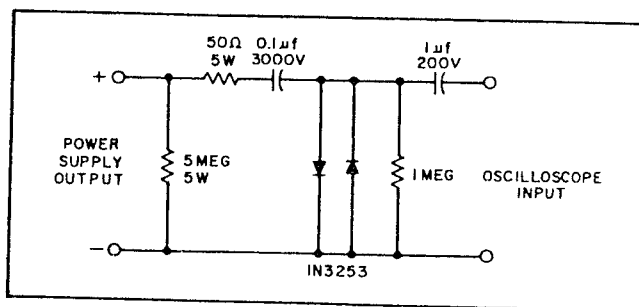
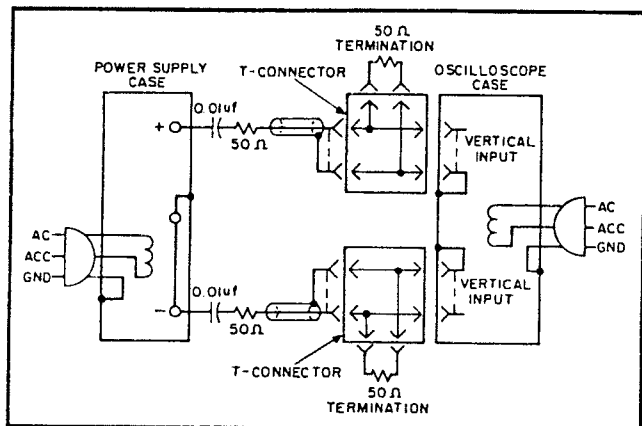

Figure 5-5. High Voltage Protection Network
Figure 5-6. Noise Spikes Test Setup
a. Connect the oscilloscope or RMS voltmeter as shown in Figures 5-4B or 5-4C. In addition, connect the high voltage protection network, illustrated in Figure 5-5, in series with the power supply output. In this network, the diodes clamp the input to the oscilloscope in the event that the power supply is rapidly turned up or down. The 50 ohm resistor limits the current through the diodes. The 5Meg resistor is a bleeder to discharge the 0.1 $\mu$ f capacitor which is a 3000Vdc blocking capacitor. A good quality 3000Vdc blocking capacitor can be used in place of the protection network; however, if the capacitor becomes leaky or in cases where the power supply output voltage is rapidly increased or decreased, the oscilloscope input could be damaged.
1. As shown in Figure 5-6, two coax cables, must be substituted for the shielded two-wire cable. In addition a high voltage protection network (Figure 5-5) as described in paragraph 5-31 should be connected in series with the power supply output.
5-34 The circuit of Figure 5-6 can also be used for the normal measurement of low frequency ripple and noise; simply remove the four terminating resistors and the blocking capacitors and substitute a higher gain vertical plug-in in place of the wide-band plug-in required for spike measurements. Notice that with these changes, Figure 5-6 becomes a two-cable version of Figure 5-4C.